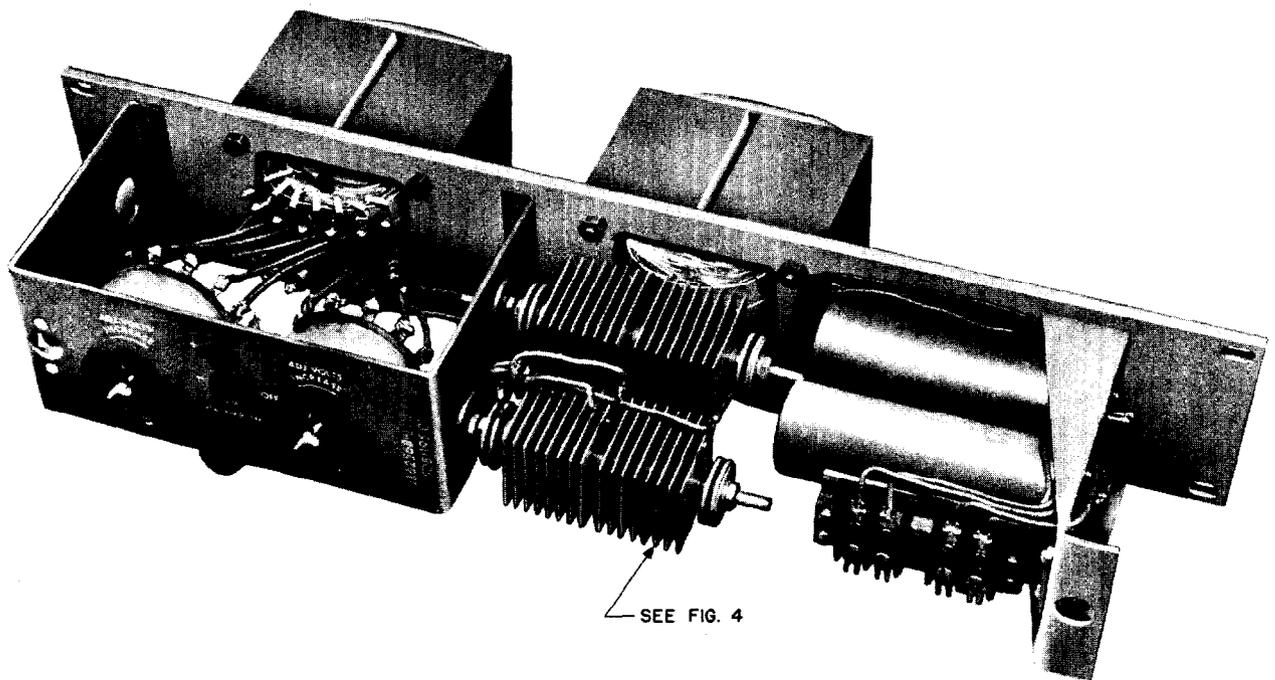
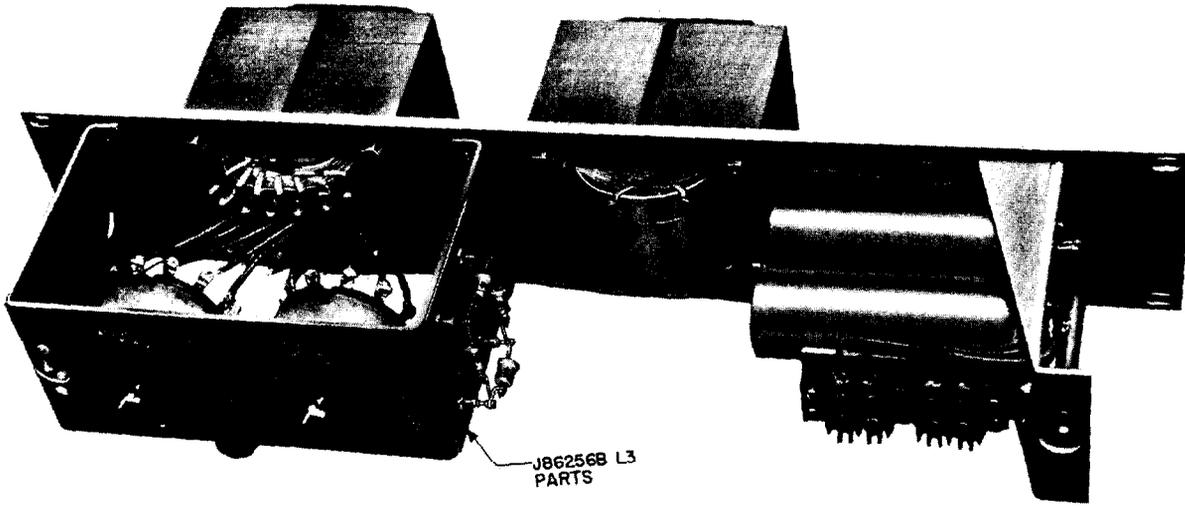

Fig. 3 - J86256B, L1 Rectifier (Showing Rectifier Stacks)
Fig. 4 - J86256B, L1 Rectifier (Showing Rectifier Stacks Replaced With J86256B, L3 Apparatus Assembly)
3.07 Defective rectifier stacks in *J86256B, L1 rectifiers* (see Fig. 3) shall be replaced with the J86256B, L3 apparatus assembly (diode replacement parts) (see Fig. 4), making use of the rectifier stack mounting holes.